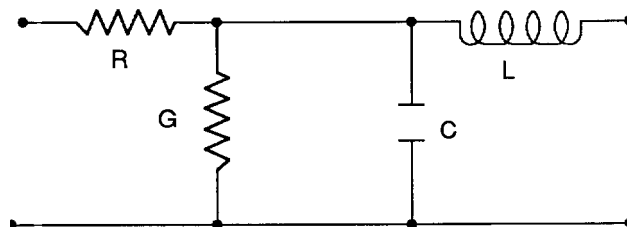

Figure 7. Basic Parameters of a Transmission Line
11. **THEORETICAL ELECTRICAL CHARACTERISTICS.** Theoretically, a transmission line has four basic parameters which consist of shunt capacitance (C), shunt conductance (G) series resistance (R), and series inductance (L) (Figure 7). Shunt capacitance and conductance are measured between the conductors and series resistance and inductance are measured along the cable length. Any transmission line regardless of length has these basic parameters uniformly and evenly distributed along its entire length. A transmission line may be considered as an infinite number of infinitesimally small sections connected end to end the entire cable length. These parameters are always present and are dependent upon the materials and their physical configurations which regulate the electrical performance of the cable.